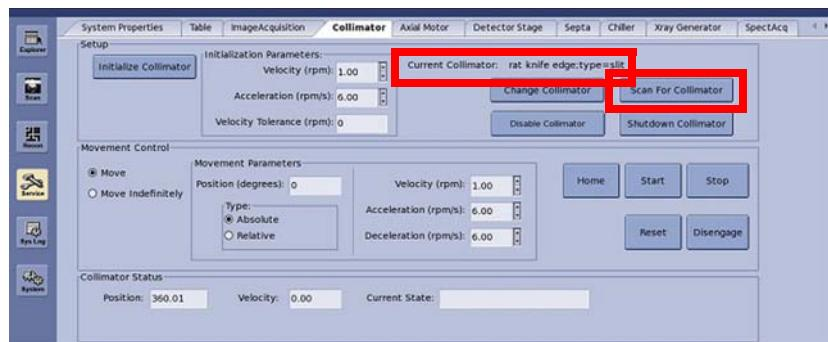

Figure 4-12
8. Select Scan For Collimator (Figure 4-12). The bar code reader will light up.
10. Verify that the proper collimator is displayed on the screen. (Figure 4-12)